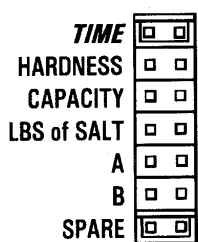

Figure 5
3. With the jumper on the pins marked **TIME** (Figure 5), set the time of day to the closest hour by depressing the black **TIME SET** BUTTON. PM hours are indicated by a light next to the letters **PM** on the display window.
3. Remove jumpers. Place one jumper on **TIME** pins and one jumper on **SPARE** jumper pins (Figure 5).